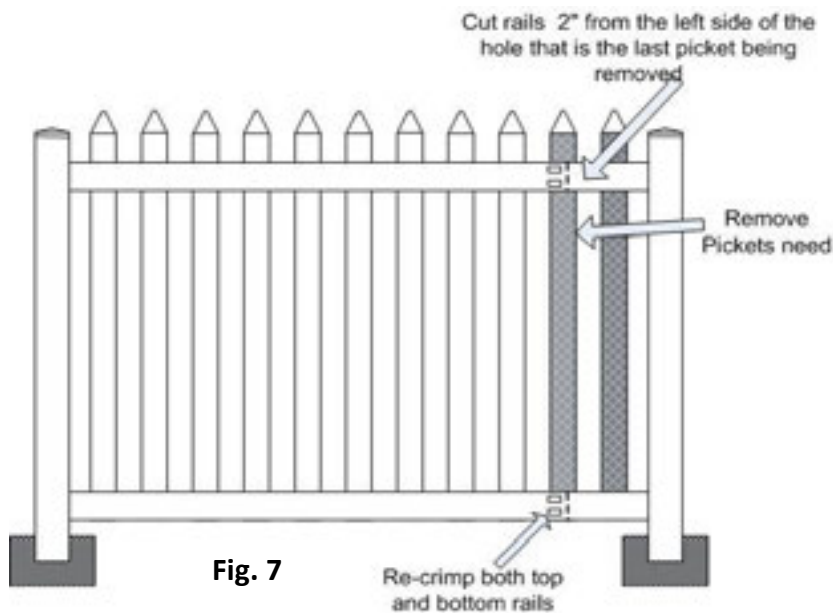

Fig. 7
**Step 3.** In some cases it may be necessary to shorten a section of the Scallop or Straight picket style fence. For best visual results cut both top and bottom rails down, re-crimp both top and bottom rails (Fig. 7).